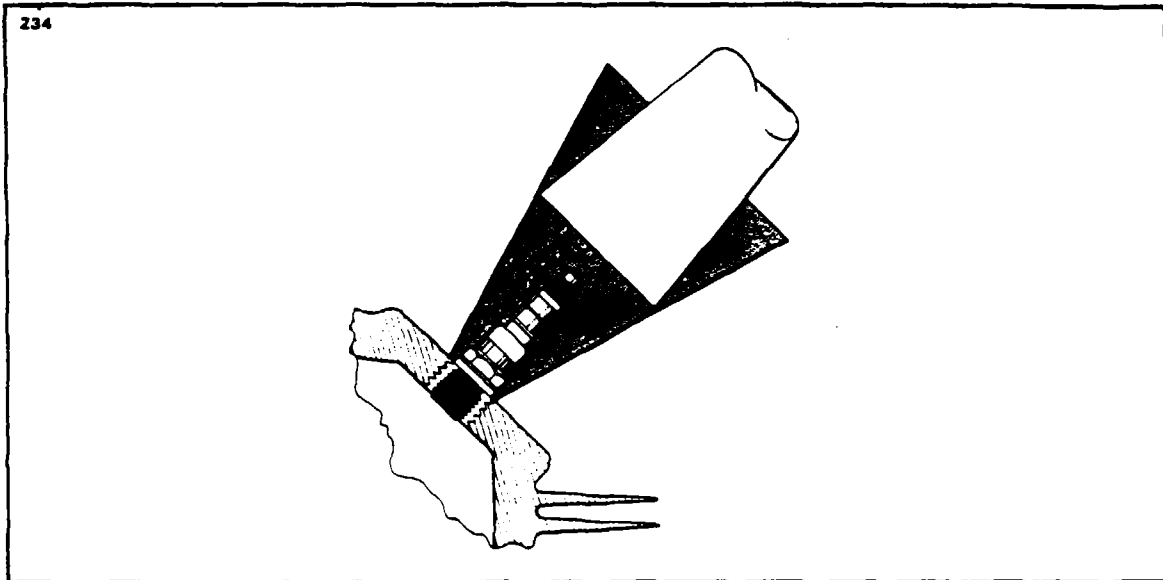

Figure 8-39. Removing Spark Plug Frozen to Bushing
d. Removal of seized spark plugs in the cylinder may be accomplished by application of liquid carbon dioxide by a conical metal funnel adapter with a hole in the apex just large enough to accommodate the funnel of a CO₂ bottle. (Refer to Figure 8-39.) When a seized spark plug cannot be removed by normal means, the funnel adapter is placed over and around the spark plug. Place the funnel of the CO₂ bottle inside the funnel adapter and release the carbon dioxide to chill and contract the spark plug. Break the spark plug loose with a wrench. A warm cylinder head at the time the carbon dioxide is applied will aid in the removal of an excessively seized plug.